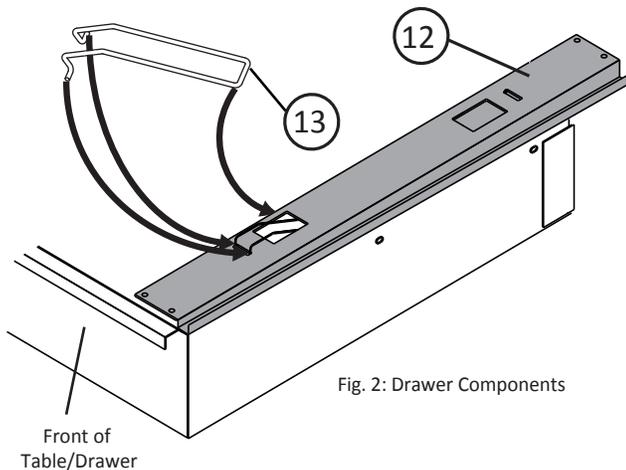

Fig. 2: Drawer Components
- **Drawer** - (Fig. 2) Slide the drawer onto the hangers (Ref. 12).